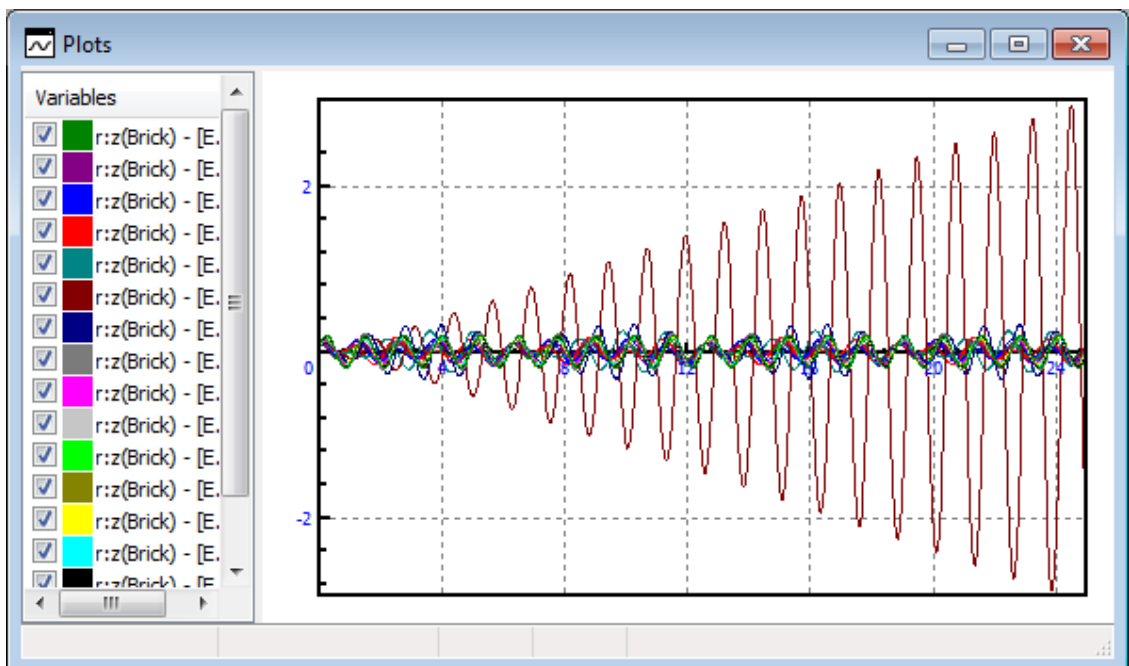

Figure 2.18. Forced oscillation
3. Select all experiments and then drag the **r:z(Brick)** variable to the graphical window, see Figure 2.18. The resonance case is clearly seen there.